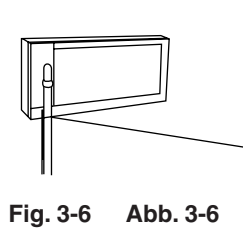

Fig. 3-6 Abb. 3-6
- In the case that the refrigerating pipes are drawn from under, the left side, cut off the bush and insert the pipe in it. (Fig. 3-6)